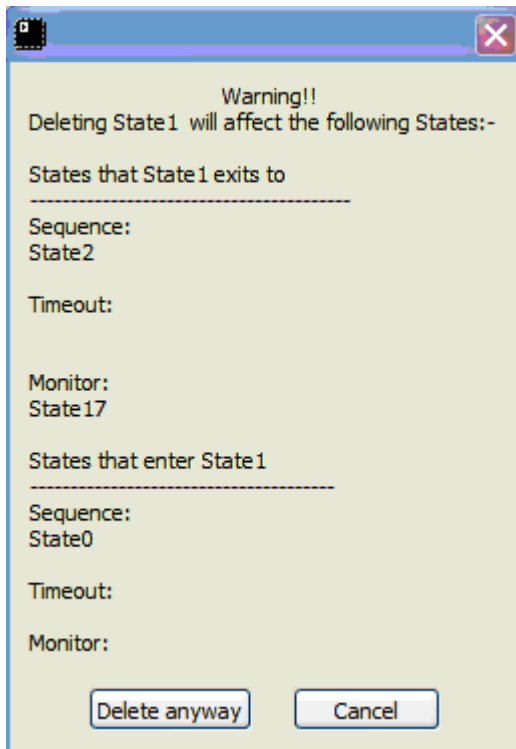

Figure 59. Delete report dialog box
**Delete a State** - Because deleting a state may affect other states (Due to it referring to other states, or other states referring to it), a dialog box containing a report of the affected states as shown in *figure 59* is generated by the software.